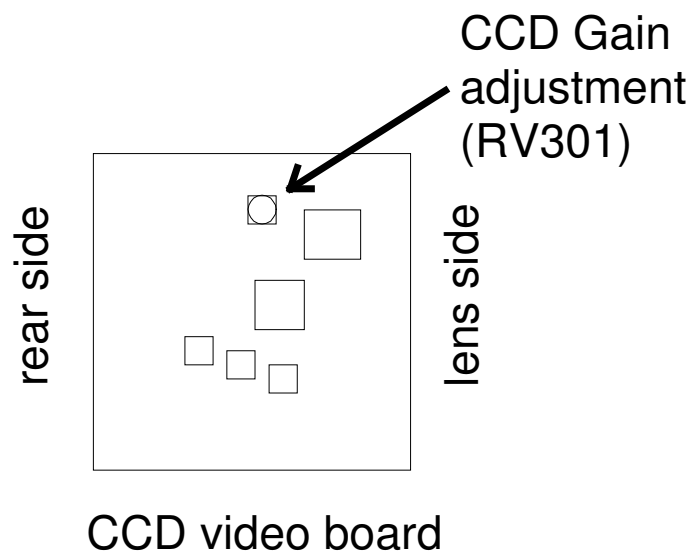

Fig. 3: Gain adjustment potentiometer inside the CCD camera of the Readout Unit
- Opening the CCD camera reveals the video board that can be seen in fig. 3. The CCD gain can be adjusted with RV301, the automatic gain control can be switched on with SW301 and the gamma characteristic can be changed with switch SW302. Please note the default settings before changing anything!
3. The gain setting of the CCD camera (see fig. 3).